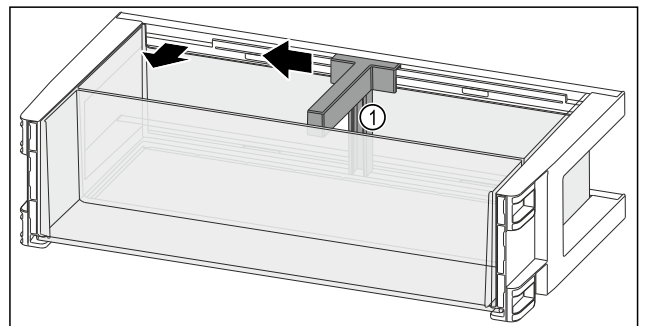

Fig. 141
- ▶ Slide the bottle holder Fig. 141 (1) to the side as far as the recess.
- ▶ Remove the bottle holder Fig. 141 (1).